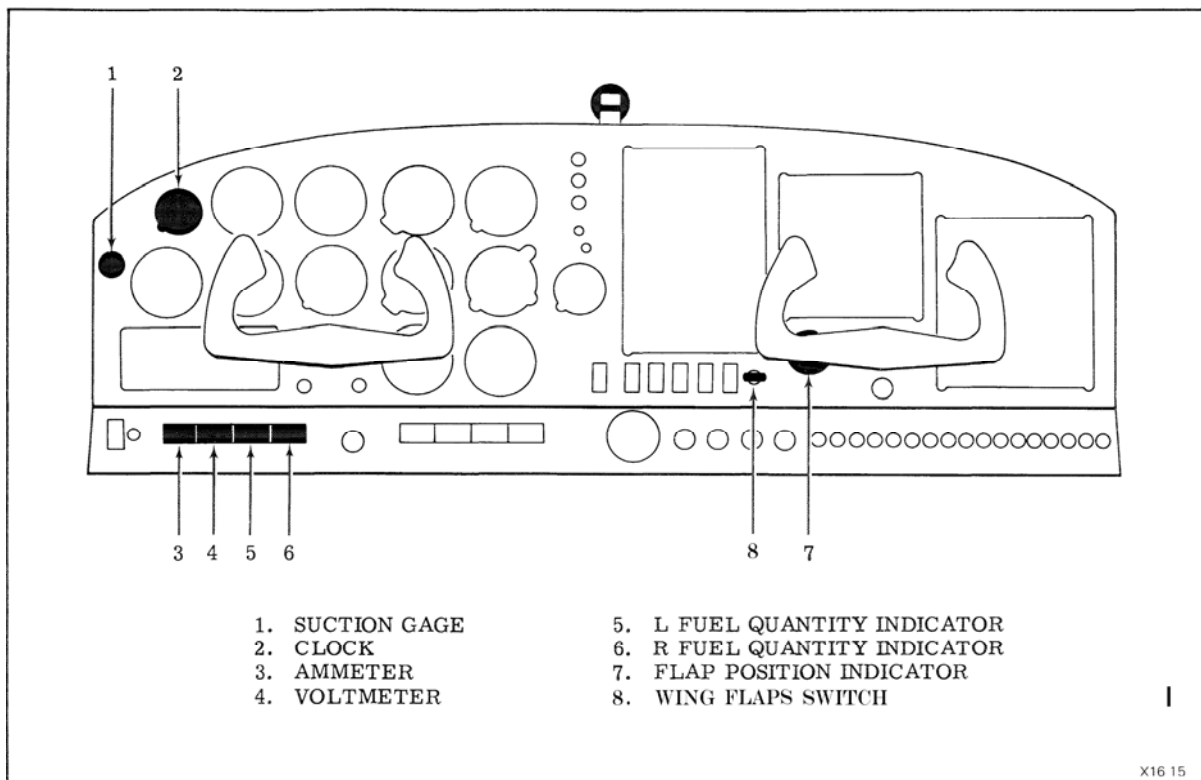

Figure 1
The wing flaps are electrically operated... Flap position is controlled by a switch labeled "WING FLAPS" (item 8 of figure 1)... Flap position is electrically indicated by a gauge mounted above, and to the right of, the flap switch (item 7 of figure 1).
The flap indicator (as shown in item 7 of figure 1) is located outside the pilot’s normal scan and may be obstructed by the copilot’s yoke. This configuration can become critical to the performance of the airplane if the following occur: